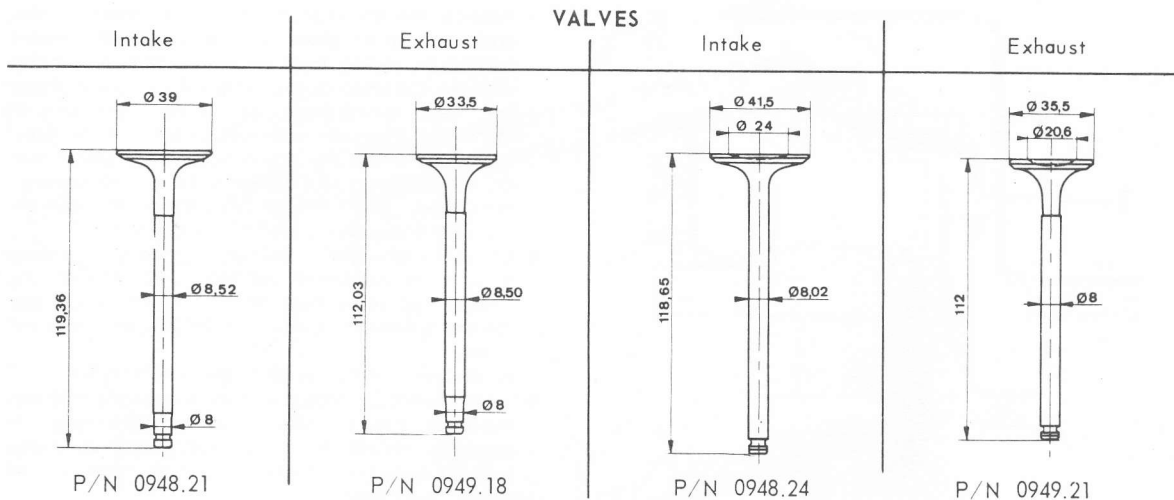

FIG 1:10 Valve dimensions
- 5 The rocker gear shown in FIG 1:11 is made of two shafts resting on five supports common to both shafts. The rocker arm supports Nos. 2 and 4 are interchangeable. It is essential when reassembling the rocker shafts that the oil holes should be turned inwards. The rockers are made of forged steel with hardened tips. They are held by eight identical springs with a free length of 46 mm and are of two identical types. Type number 1 (see FIG 1:11), for 2 and 4